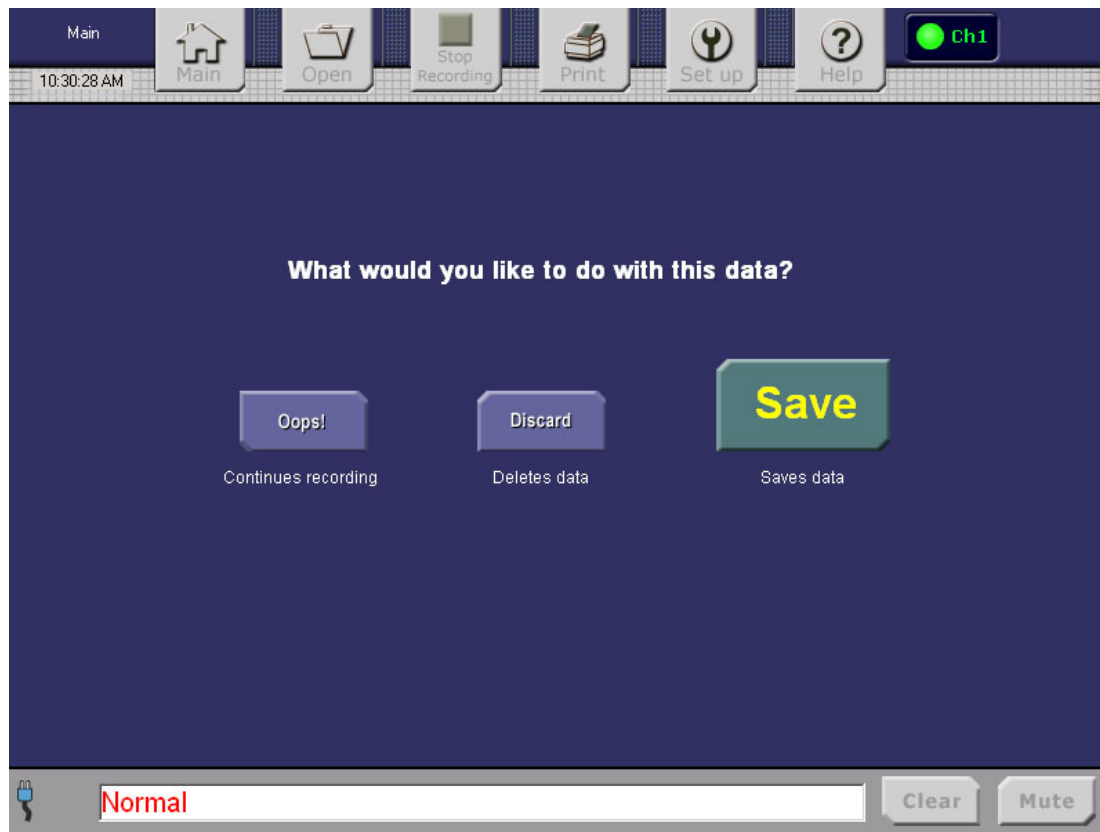
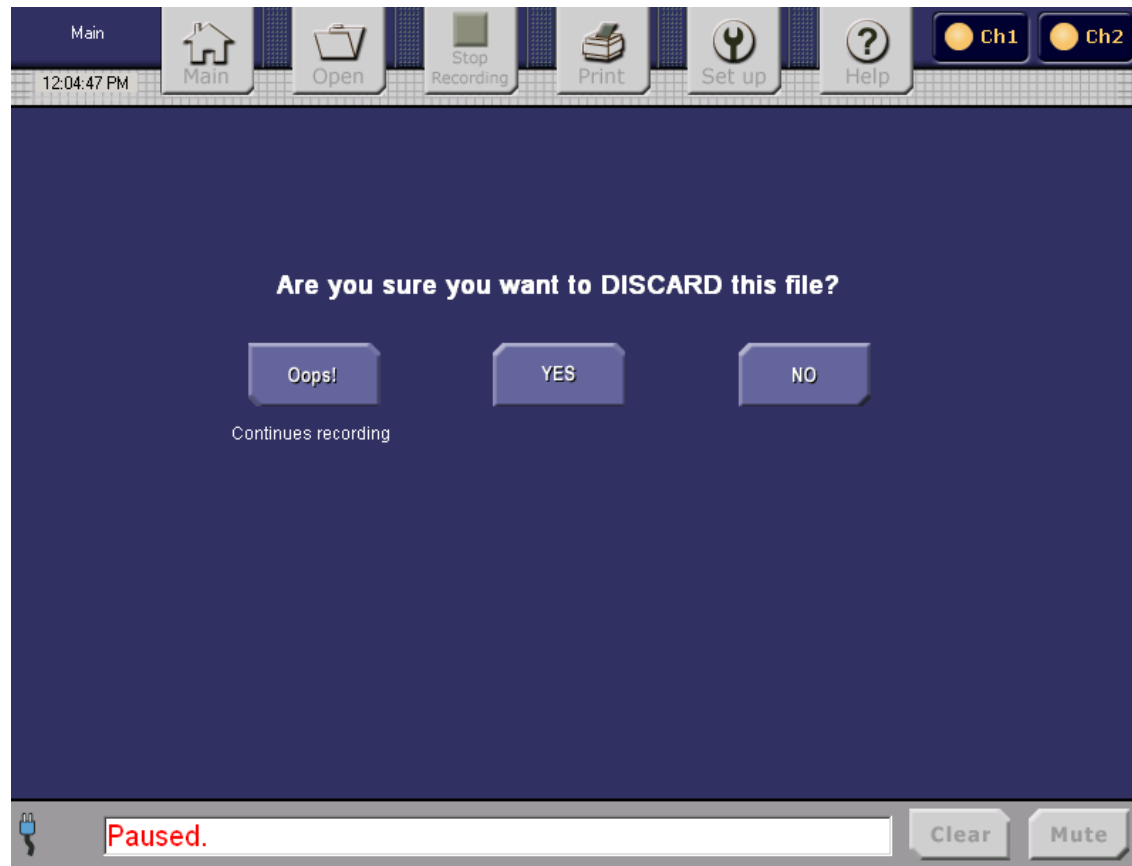

Figure 29. Oops Save Discard Screen, Step 1
Figure 33. Discard Confirmation Screen
To stop recording data, tap the Control Bar **Stop Recording** button. The **Oops Save Discard** screen is displayed, as shown in Figure 29.
Step 1: From the **Oops Save Discard** screen, tap **Discard** to proceed to the **Discard Confirmation** screen (Figure 33) for a confirmation to delete the data.
Tapping the **Return** button will return to the **Oops Save Discard** screen (Figure 29).
If you select **Discard** from the **Oops Save Discard** screen (Figure 29), you will be prompted to confirm the deletion of the temporary log files. Figure 33 shows the **Discard Confirmation** screen.